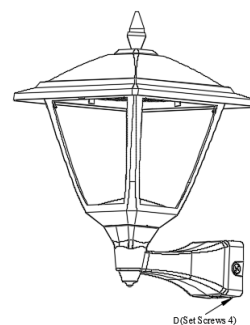

Fig.14
7. Check that the Wall Mount Cover Gasket is secure between the Wall Mount Box and Wall Mount Cover. Secure the Wall Mount Box to Wall Mount Cover using (4) Set Screws at D (provided). as shown in Fig.14